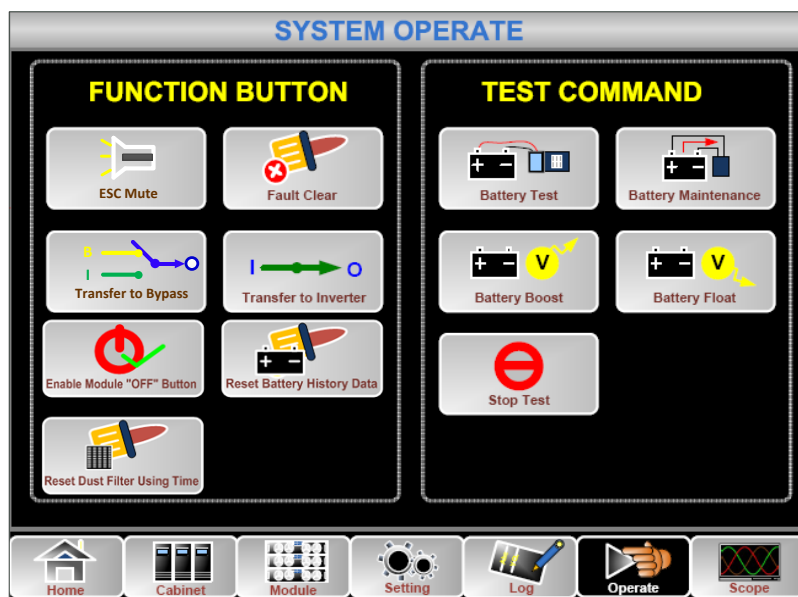

Fig.5-4 Battery maintenance
1. Manual Discharging test. Enter the menu Operate, as is shown in Fig.5-4 and touch